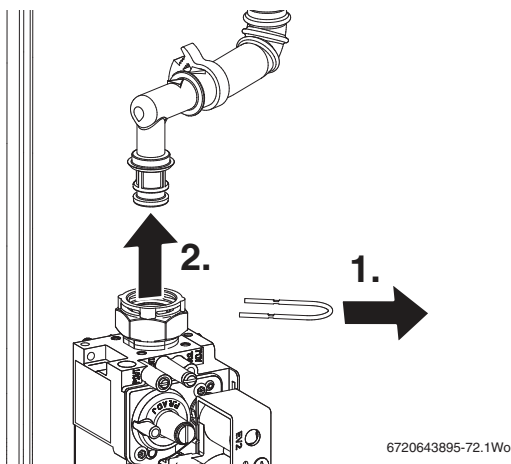

Fig. 64 Gas valve connection
1. Refer to figure 64 and remove the clip from gas valve outlet.